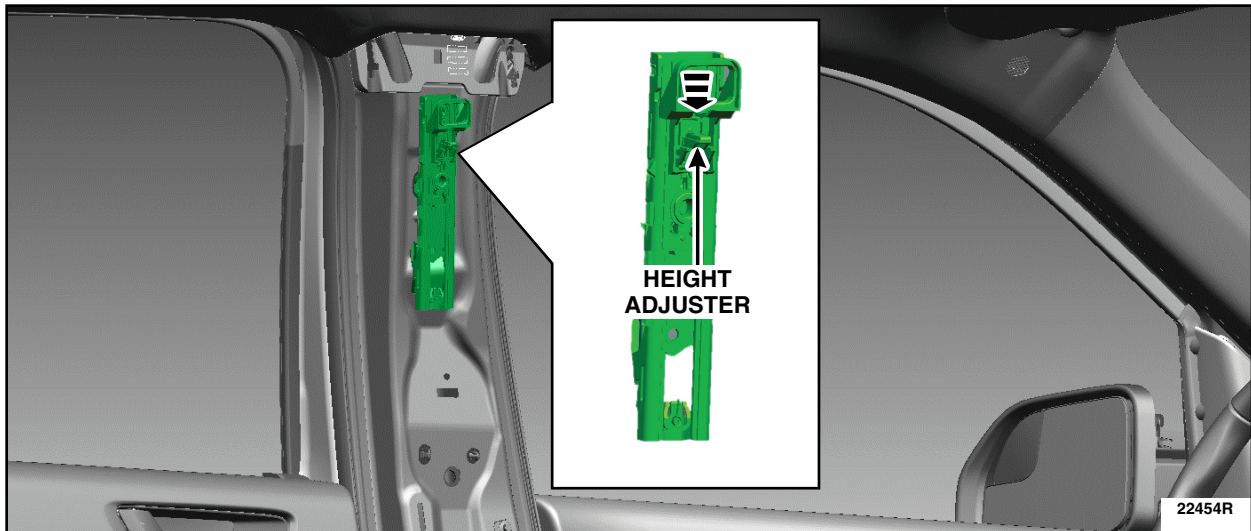

FIGURE 7
10. On both sides pull the height adjuster downward to the lower position and adjust the position of the height adjuster downward. See Figure 7.